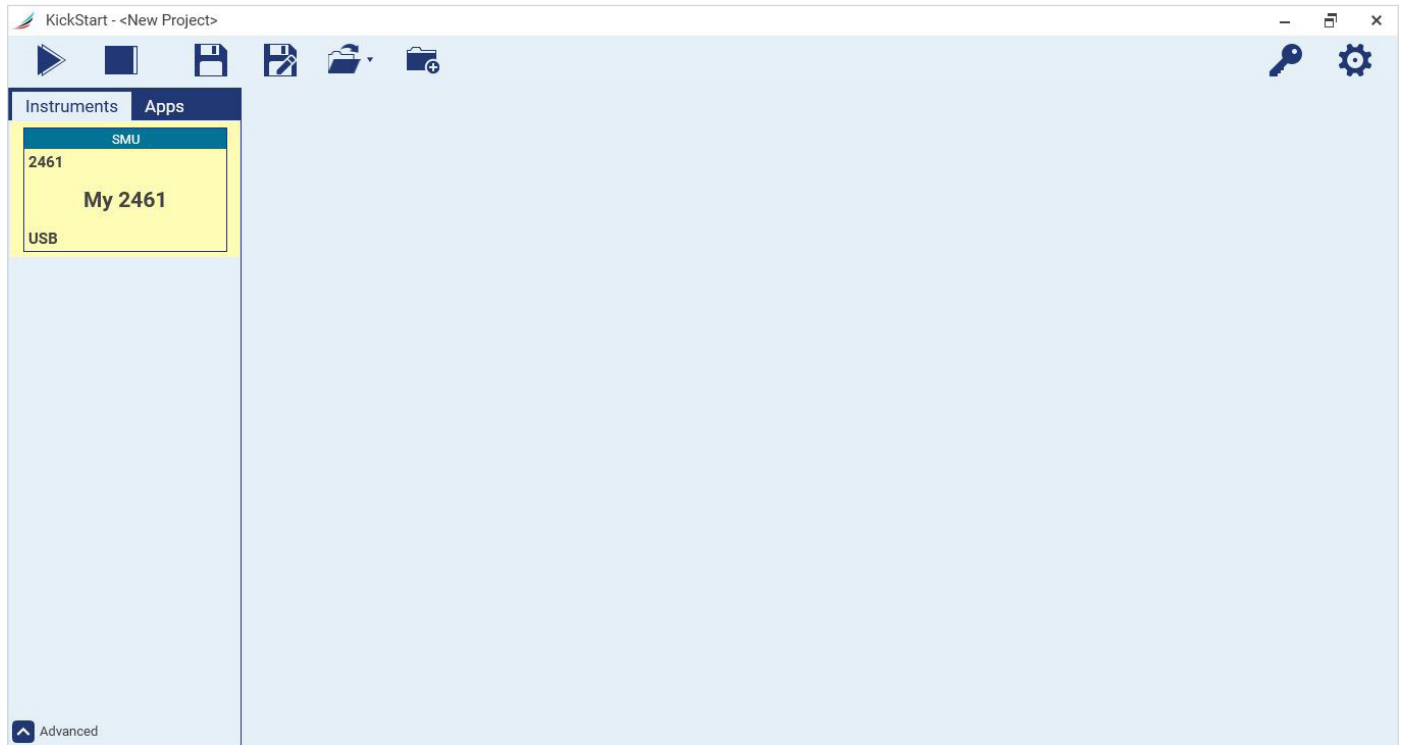

Figure 8: KickStart software startup page.
1. Launch the KickStart software. The startup screen is displayed, as shown in the **Figure 8**.